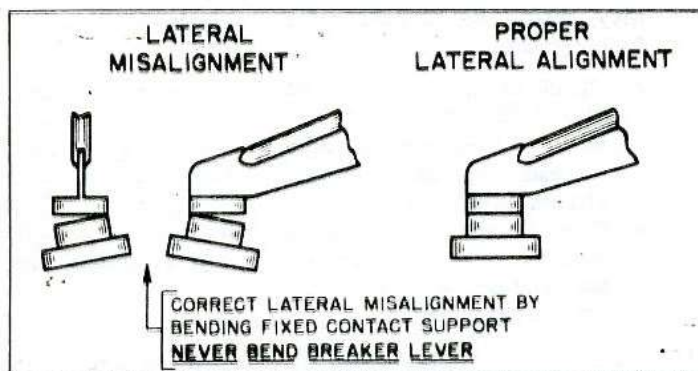

Fig. 3—Point Alignment
- Check alignment of distributor points with points closed (fig. 3). Align new points where necessary, but do not attempt to align used points. Instead, replace used points where serious misalignment is observed.